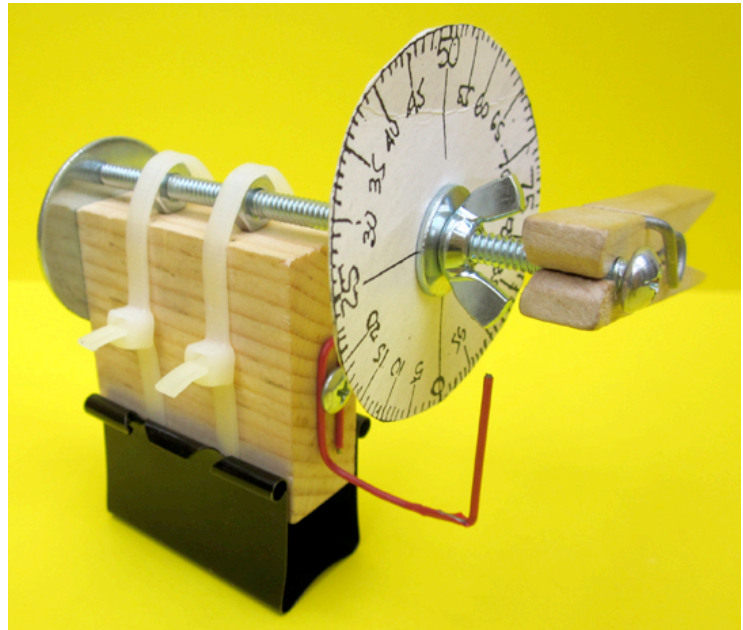

Figure 1
4. Loop the cable ties around the hex nuts and the wood block to fasten the assembly to the block. Use the pliers to tighten the cable ties so that the assembly is held very securely to the block, with the fastening heads of the cable ties located at least halfway up the side of the block. See Figure 1, or any of the Figures with the cable ties in place. When the cable ties are in place, the rubber bands can be removed and will no longer be needed.
7. Poke a small hole in the center of the dial, so that you will be able to slide it onto the machine screw. Use the two wing nuts and the two small washers to hold the dial in place on the machine screw, with the dial about 1 inch from the head of the screw. See Figures 1, 5 and 6 for reference.
9. Attach the binder clip and remove the binder clip handles. The purpose of the binder clip is to give a flat base, so that the micrometer will stand up by itself. See Figures 1 and 6.
10. Bend the jumbo paper clip to make the reference indicator for the dial (use pliers if necessary). Attach with the remaining sheet metal screw. See Figures 1 and 7.
11. Attach the clothespin to the machine screw right at the head of the screw. See Figures 1 and 8. Turn the screw so that it advances toward the washer by using your finger to push against the side of the clothespin.